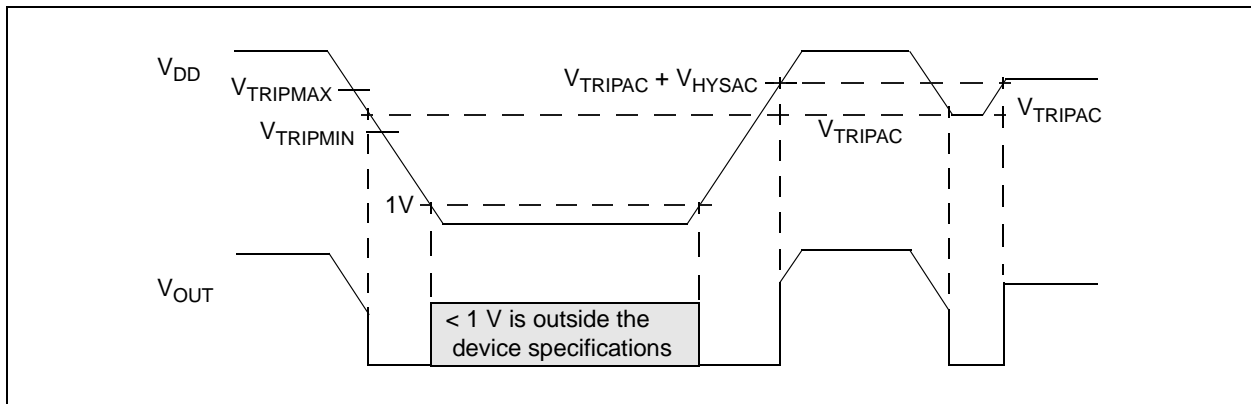

**FIGURE 4-1:** Typical Application Circuit.
**Note:** Unless otherwise indicated, all limits are specified for  $V_{DD} = 1V$  to  $5.5V$ ,  $R_{PU} = 100\text{ k}\Omega$  (only **MCP111**; see **Figure 4-1**),  $T_A = -40^\circ\text{C}$  to  $+125^\circ\text{C}$ .
**Note:** Unless otherwise indicated, all limits are specified for  $V_{DD} = 1V$  to  $5.5V$ ,  $R_{PU} = 100\text{ k}\Omega$  (only **MCP111**); see **Figure 4-1**),  $T_A = -40^\circ\text{C}$  to  $+125^\circ\text{C}$ .
**Note:** Unless otherwise indicated, all limits are specified for  $V_{DD} = 1V$  to  $5.5V$ ,  $R_{PU} = 100\text{ k}\Omega$  (only MCP111; see Figure 4-1),  $T_A = -40^\circ\text{C}$  to  $+125^\circ\text{C}$ .
For many of today's microcontroller applications, care must be taken to prevent low-power conditions that can cause many different system power problems. The most common causes are brown-out conditions, where the system supply drops below the operating level momentarily. The second most common cause is when a slowly decaying power supply causes the microcontroller to begin executing instructions without sufficient voltage to sustain SRAM, thus producing indeterminate results. Figure 4-1 shows a typical application circuit.
A 0.1  $\mu\text{F}$  bypass capacitor, mounted as close as possible to the  $V_{DD}$  pin, provides additional transient immunity (refer to Figure 4-1).